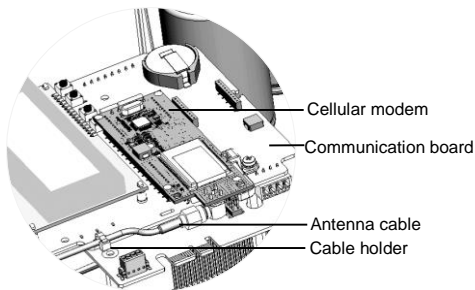

Figure 10: Installed cellular modem and antenna cable
- 8** Pull the excess cable into the inverter so that the cable can be attached to the inverter communication board (see Figure 10).
- 4** Connect the antenna cable to the cellular modem and tighten manually (see Figure 10).